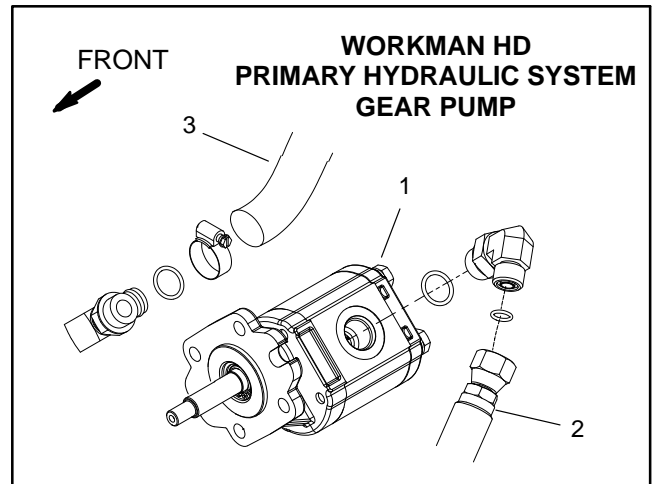

Figure 19
3. With the engine off, clean hose fitting and disconnect the pressure hose from the gear pump (Fig. 19). Install tester with pressure gauges and flow meter in series between the gear pump and the disconnected hose. **Make sure the tester flow control valve is open.**
5. Make sure hydraulic oil is at normal operating temperature by operating the vehicle for approximately ten (10) minutes. Check for hydraulic leakage and correct before proceeding with test.